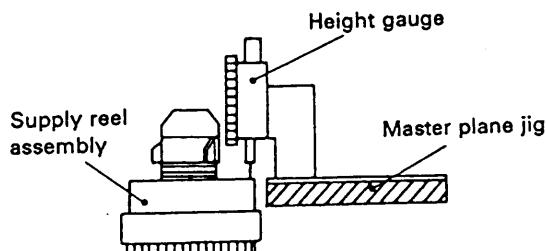

Fig. 3-2 Reel height adjustment
- Check reel assembly height measure at two places 90° apart (± 0.2 mm) Fig. 3-2.